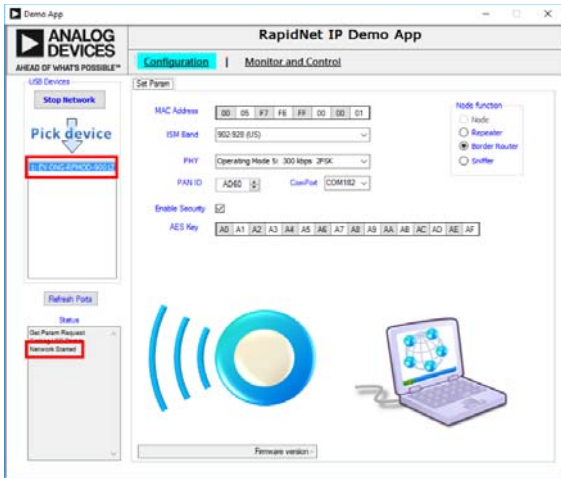

Figure 3. Starting the Network
3. Click **Refresh Ports** button to view the connected devices. **EV-DNG-RFMOD-9001Z** appears under **Pick device** section of the demonstration application (see Figure 3).
5. Click **Start Network** in the **USB Devices** pane of the **RapidNet IP Demo App**. The **Network Started** message confirms that the ADI RapidNet IP network started successfully and is waiting for the node to join (see Figure 3).